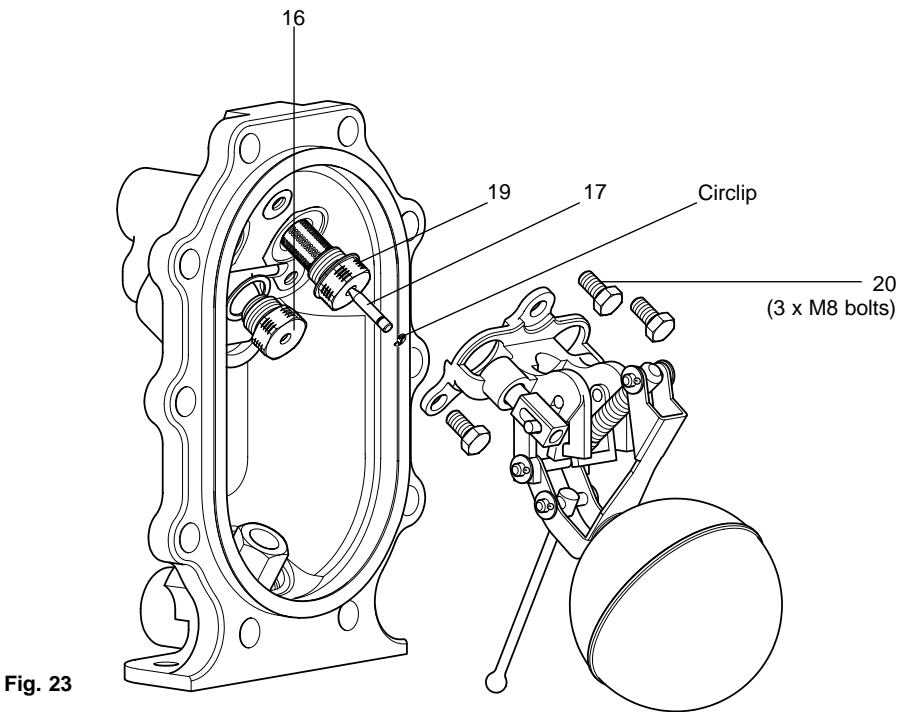
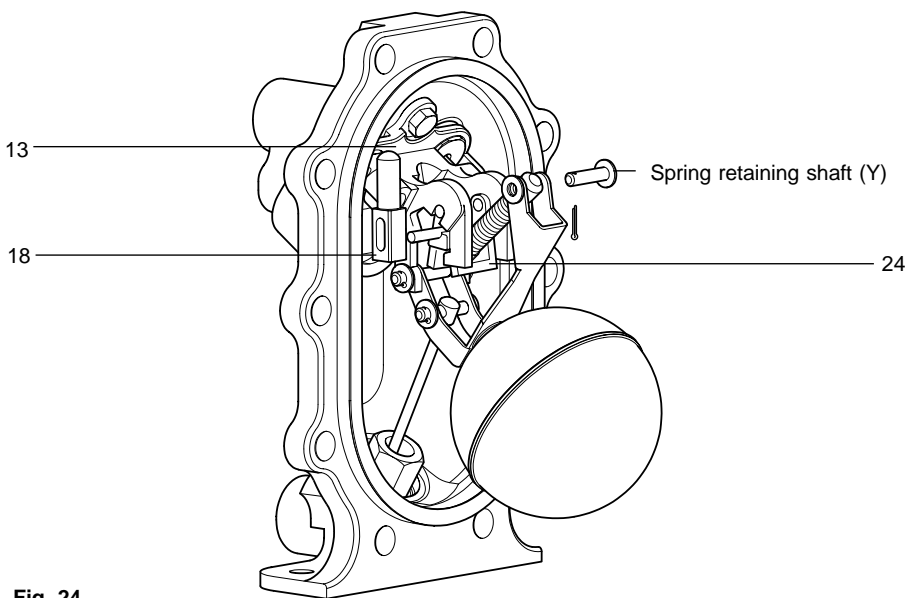

Fig. 23
Fig. 24
9. Insert the replacement steam valve assembly (item 17) and exhaust valve (item 16) according to Fig. 23.
10. Place a new metal gasket (item 19) onto the threads of the seat before tightening into the cover.
15. To remove the exhaust valve (item 18), remove split pins, washers, and shaft (Y) from the top spring pivot point. (See Fig. 24).
17. Draw the actuator arm downwards within its slots until the whole spring and actuator arm assembly with the exhaust valve comes free. It may be necessary to slide the exhaust valve backwards against its internal spring to free it from the pump bracket guide (item 13).
18. Align the slot in the exhaust valve (item 18) with the tang of the actuator arm (item 24) (See Fig. 24).